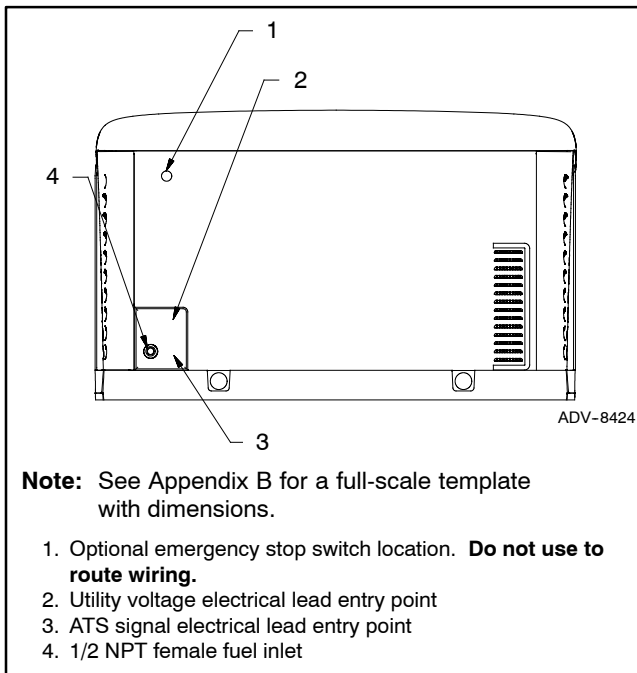

Figure 1-16 Electrical Lead Entry Locations
Drill or punch holes in the enclosure for the electrical conduit in the locations shown in Figure 1-16. A full-scale dimensioned template for the hole locations is printed in Appendix B. See page 57.
1. Drill holes for the conduit fittings. See Figure 1-16 and Appendix B for the recommended electrical inlet locations. Feed the cables through the openings.